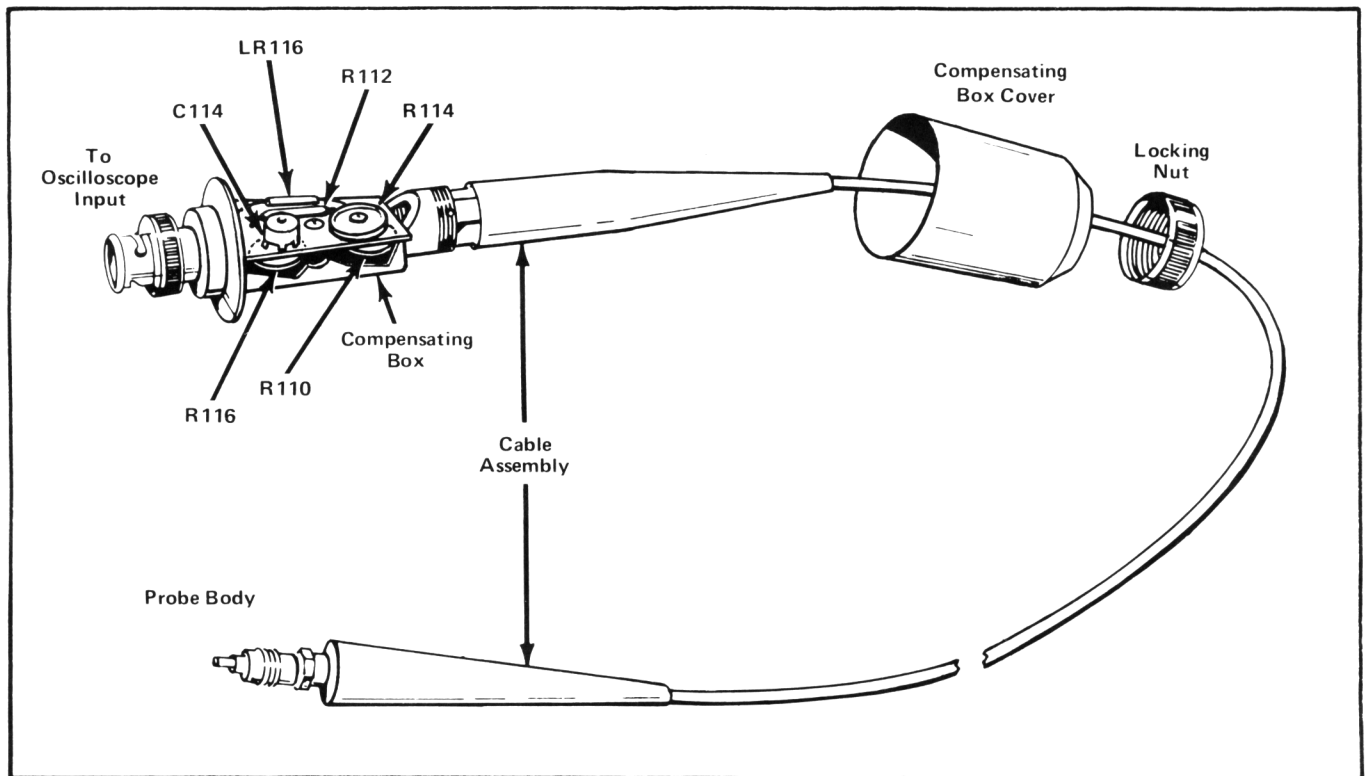

Fig. 7. P6009 Probe, H.F. compensating assembly.
g. Set C114 (see Fig. 7) for maximum rolloff on the leading corners of the squarewave.
j. Adjust R110, R114, and R116 for the best overall flat response. Check for proper level with Time/Div at 200 ns, readjusting as necessary. Fig. 7 shows the location of adjustments in the compensating box.
1. Remove the Compensating Box Cover by unscrewing the Locking Nut that holds it in place (see Fig. 7).